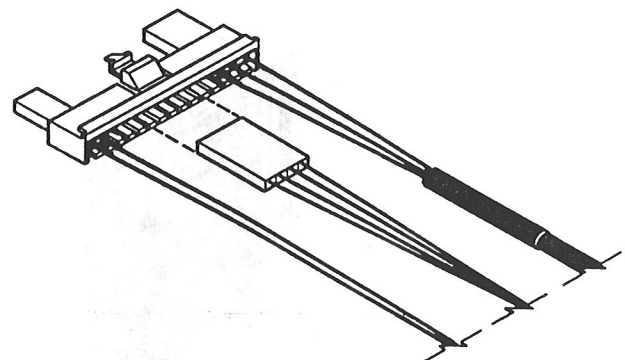

Figure 7-5
12. The center section of the three-part connector must be removed to free the control module. Spread the rear of the connector and pull the center section out. (See figure 7-5.)
three-part connector is assembled—the section lines up with pins 7, 8, 9, and 10 in the mating connector in the ventilator. (see figure 7-5.)